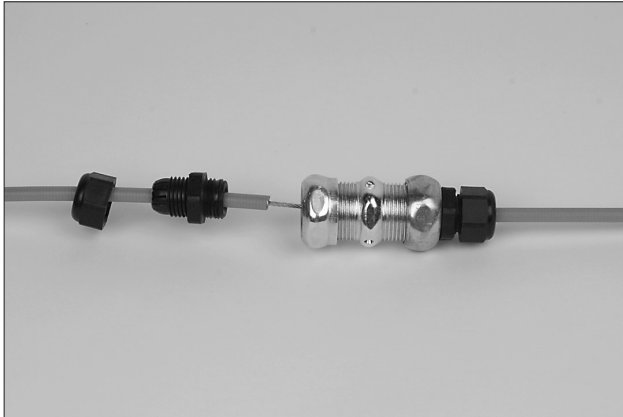

FIGURE 4-76
9. Tighten compression union nut onto union body, securing flexible conduit insert in place. See Figure 4-76.